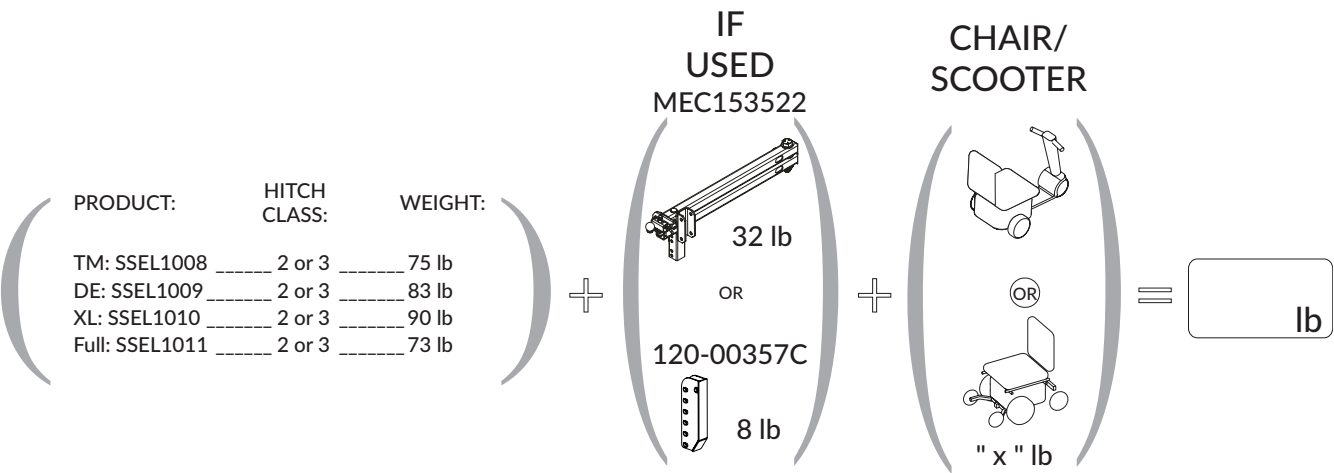

Figure 3-1
- 3. Add the combined weights of the lift, mobility device and, where applicable, the swing-away option. Ensure that the total weight does not exceed the hitch's recommended tongue weight. Many hitches are available on the market, and all are designed to bear a specific amount of weight. See Figure 3-1.